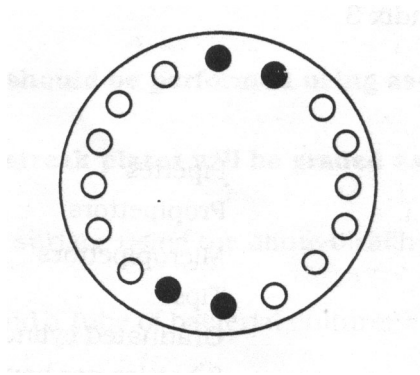

Figure 6.2. Balancing samples in the microfuge rotor.
- 3) Pool and mix the reagents by placing in a microfuge in a balanced configuration (Figure 6.2). Ensure that each volume is balanced with a tube containing an equal volume so balance with tubes from other groups. If tubes are not balanced, this will damage the microfuge motor. Apply a short several-second pulse to the tubes.